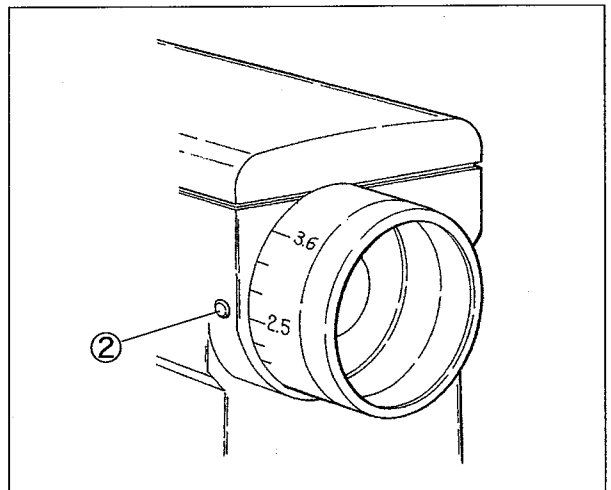

Fig. 29
- (1) Rotate the pulley while the pushing push button ①. At the point as far as it will go, again push it securely.
- (2) With keeping that, align desired graduation of the pulley with the mark ② on machine arm. (Fig. 29)
- (3) Release the push button ①.